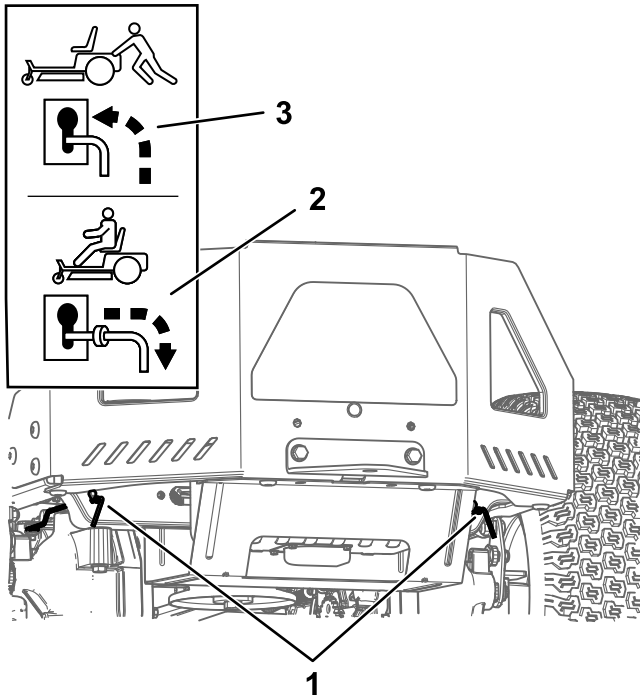

Figure 28
4. Move both bypass levers forward through the slotted hole and down to lock them in place (Figure 28).